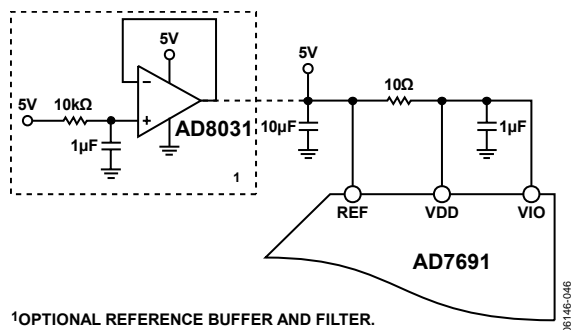

Figure 33. Example of an Application Circuit
For simplified applications, the AD7691, with its low operating current, can be supplied directly using the reference circuit shown in Figure 33. The reference line can be driven by
- A reference buffer, such as the AD8031, which can also filter the system power supply, as shown in Figure 33.